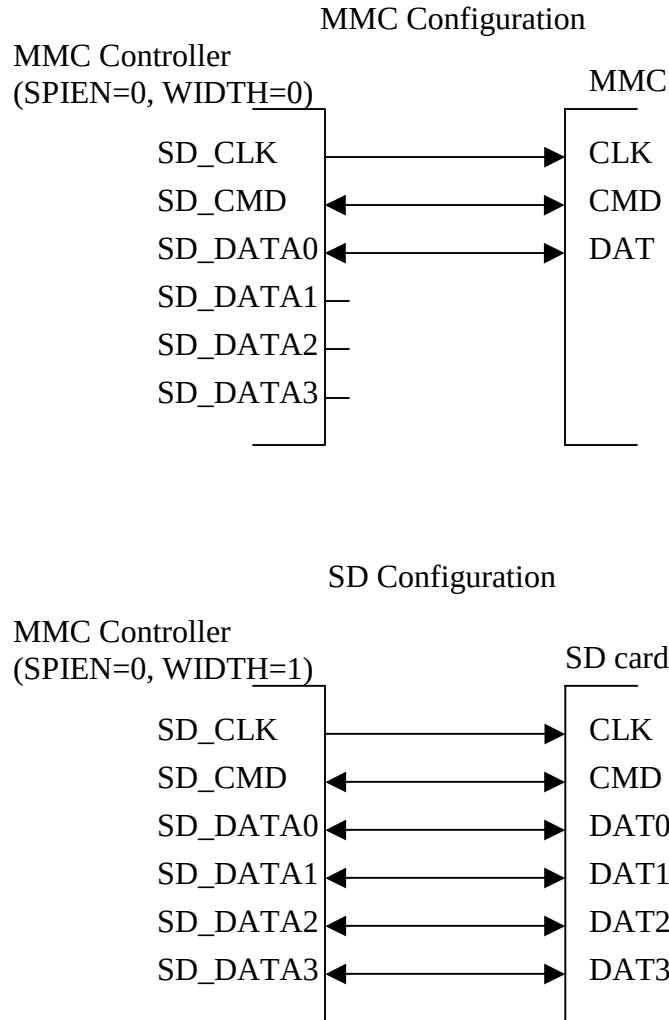

Figure 120: MMC Configuration Versus SD Configuration
- DAT0 or DAT [3:0]: MMC uses only one data line (DAT0) and SD Card uses one or four data lines. The number of DAT pins (the data bus width) can be set with the WIDTH field in the MMCCTL register (Refer to Figure 120).